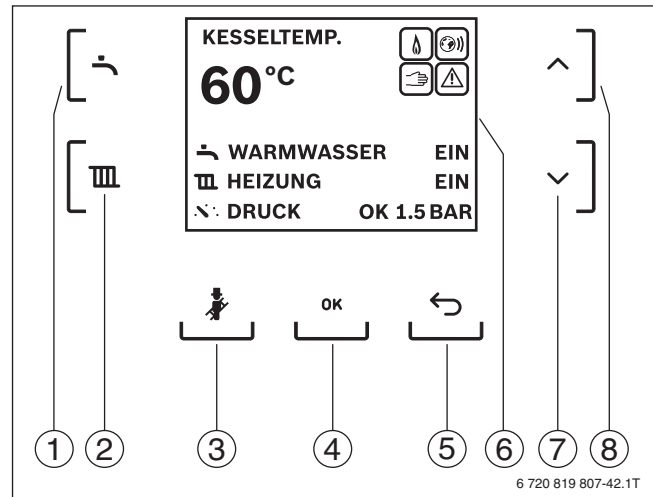

Fig. 30 Display and indicators of basic controller Logamatic BC30 E
- Hot water setting via the menu **HOT WATER**; Call up the menu with DHW key (→ Fig. 30, [1])
- Setting of heating via the menu **HEATING**; Call up of menu with heat key (→ Fig. 30, [2])
- Manual operation e.g. for flue gas test; press flue gas inspector key longer than 3 seconds (→ Fig. 30, [3])
- Status display and fault diagnosis in an LC display (→ Fig. 30, [6])
- Emergency operation: Chimney sweep button to be pressed for more than 8 seconds (→ Fig. 30, [3])